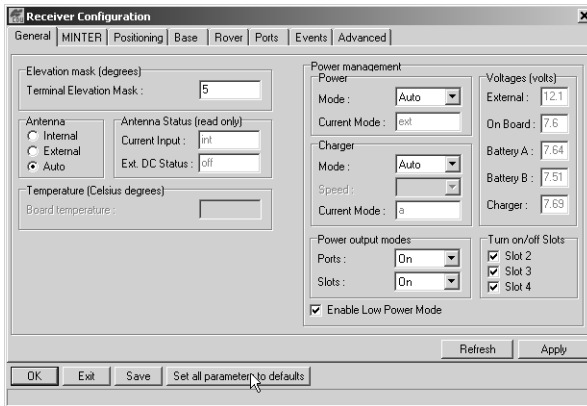

Figure 3-7. Set All Parameters to Defaults
- Click the **Set all parameters to defaults** button located at the bottom of the Receiver Configuration screen (Figure 3-7).